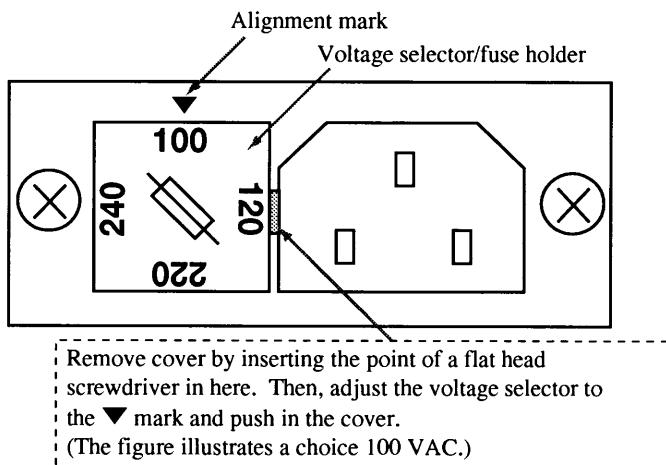

Figure 1-2 Removing Fuse Holder
2. Remove fuse holder as shown in Figure 1-2.